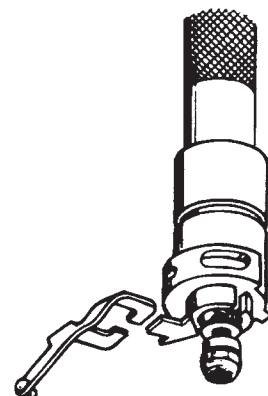

Figure 4
- e) Push inward on the poppet wrench and insert the lever (item 15) between the spacer and washer such that it is pointing away from the alignment tab on the bottom of the insert. *Figure 4.*
3. Lightly lubricate the o-ring (item 26) and place it on the inlet fitting (item 27).
4. Lightly lubricate the o-ring (item 12) and place it in the groove on the insert (item 13).
5. If the baffle (item 11) was removed, replace it at this time.